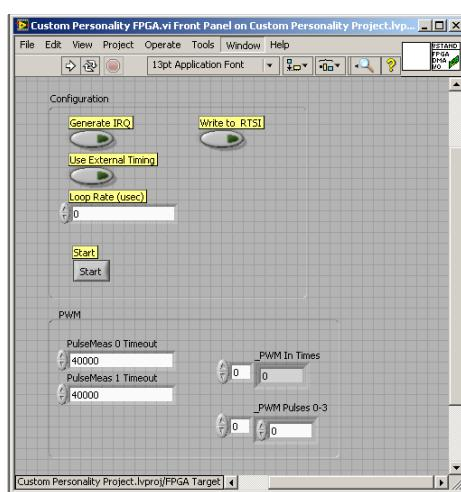

Figure 40: Create Labview FPGA target and XML - 10
9. The project menu will now appear and should look something like Figure 40. Select the LabVIEW VI as demonstrated our is called Custom Personality FPGA.vi